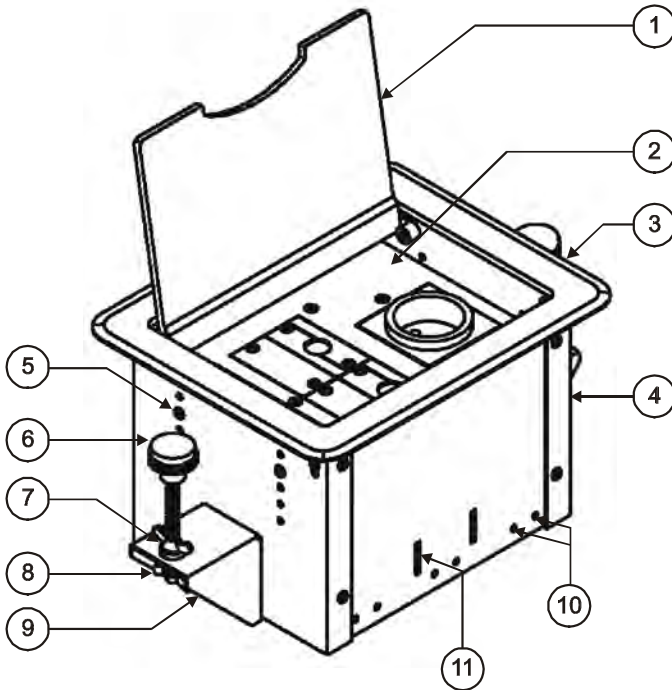

Figure 2: TBUS-1A Table Connection Bus Top View
Figure 2 and Table 1 define the TBUS-1A unit:
2. Take the support brackets under the table and place them into the support bracket grooves on both sides of the unit (see Figure 2).